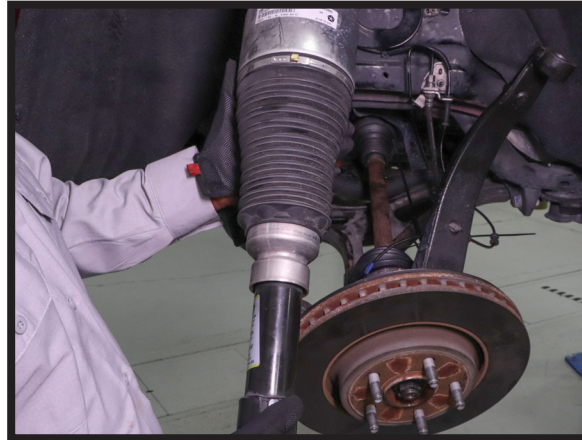

FIGURE 22
15. REMOVE AIR STRUT FROM VEHICLE. (FIGURE 22)